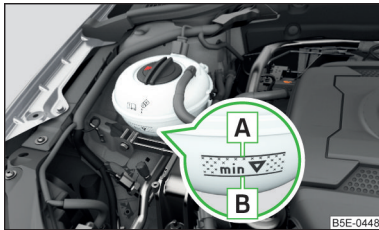

Fig. 200
» Fig. 200 on page 195.
- Do not fill the coolant above the mark **A** » Fig. 200 on page 195.
Coolant expansion reservoir » Fig. 200
» Check the coolant level in the coolant expansion tank » Fig. 200.
If the engine is warm, the test result may be inaccurate. The level can also be above the mark **A** » Fig. 200.